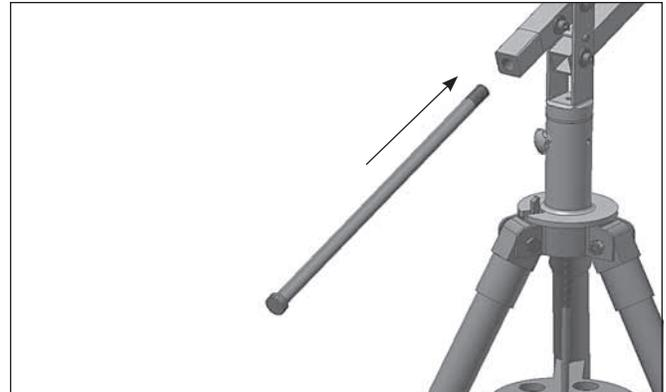

Fig. 1.7.
1.7. Insert the counterweight shaft (part 12) into the threaded hole in the end of the parallelogram arm and rotate the shaft clockwise until it is tight (**Fig. 1.7**).